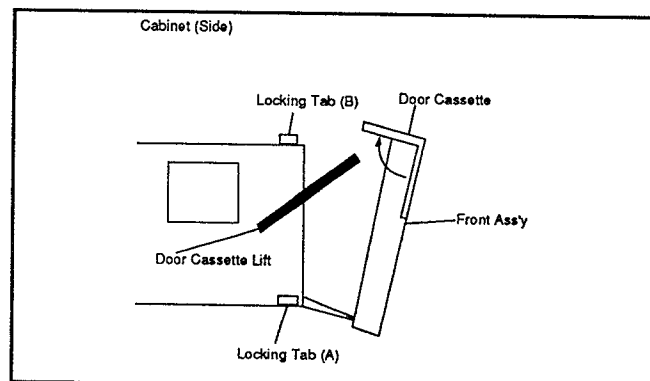

Fig. 4
When you reinstall the Front Ass'y, take care not to break the Locking Tabs. First install the Locking Tab (A), then install the Locking Tab (B), holding up the the Cassette Door Lift (Fig. 4).